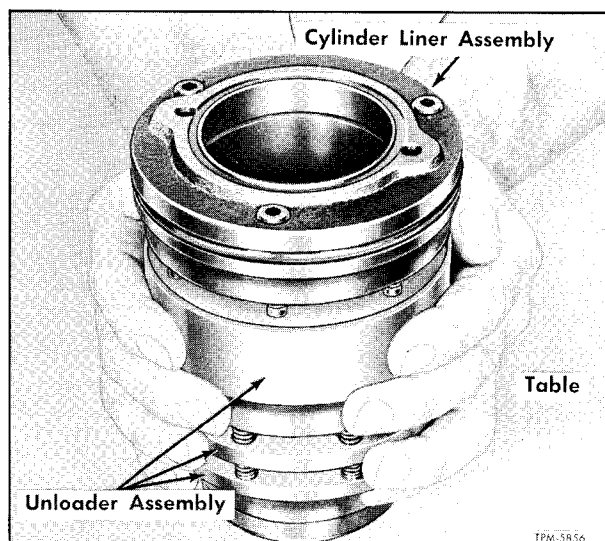

Figure 70—Method of Removing Unloader Assembly
1. To remove unloader assembly (53) and unloader actuated parts from cylinder liner, grip the unloader firmly with both hands and strike bottom of liner against a soft wood (flat) surface (fig. 70). Separate unloader from liner. Invert piston on bench, then release retaining ring (32) and slide it off liner. Lift take-up ring (49) from liner and remove lift pins (5) and pin springs (4) from holes in liner.